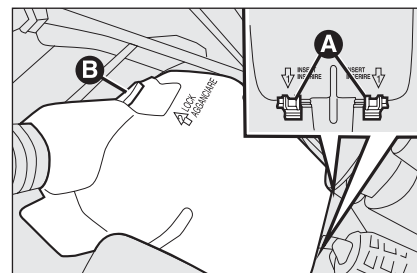

fig. 51
- ☐ fit the two attachments **A**-fig. 51 in the corresponding seats on the fuse box;